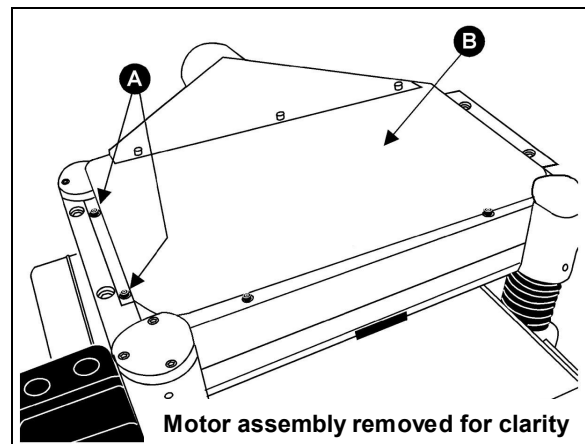

Figure 20
2. Remove four hex cap screws (A, Fig. 20) from the upper cover and three from the bottom of the dust port. Remove the cover/dust port (B, Fig 20) as a unit.
2. Remove four screws (A, Fig. 20) from the upper cover and three from the bottom of
the dust port. Remove the cover/dust port (Fig. 20) as a unit.